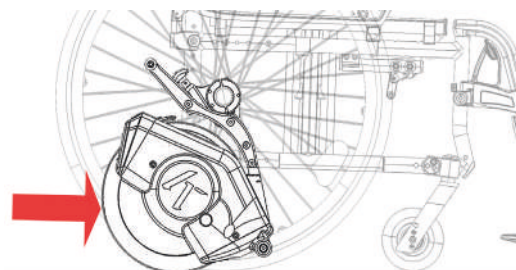

Figure 29
- Place the TWIST R in front of the hook. The upper pin should rest in the opening of the hook located on the wheelchair (Figure 29).